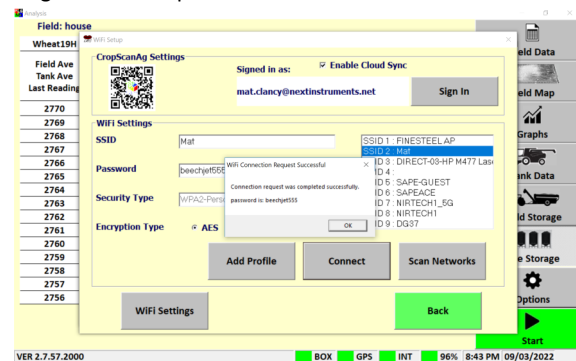

Figure 3-3. Wifi Hotspot Connection
- Press the **Connect** button and wait for a Wi-Fi Connection Request notification as shown in figure 3.3.